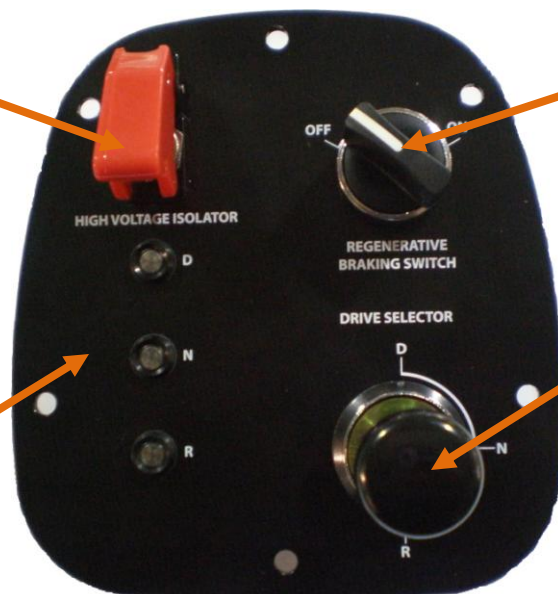

Figure 4.1
The vehicle Drive Controls are located next to the driver's seat in the middle console (Figure 4.1).
- The High Voltage Isolator Switch in the truck cab must be in the **RUN** position with the red protective cover closed. (Figure 4.1)